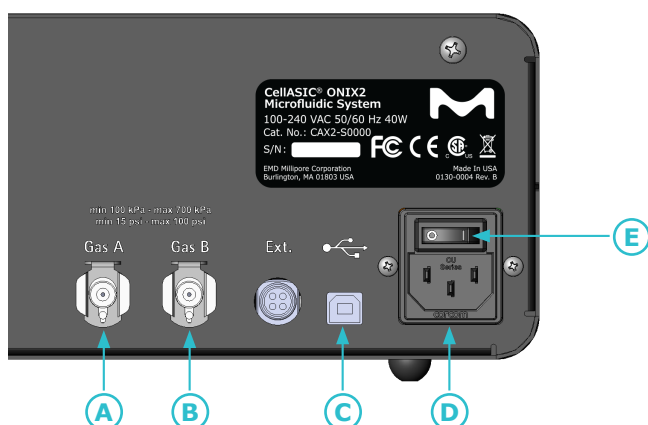

Figure 4. CellASIC® ONIX2 Microfluidic System back panel
2. Connect the power cord from a grounded electrical outlet to the system (D in Figure 4). The internal power supply accepts any voltage source between 100 and 240 VAC. Connect the USB cable from the computer to the USB port (C in Figure 4) on the back panel of the system.
3. If gas environmental control is desired, connect one or two premixed gas tanks to the back of the system into the ports I labelled Gas A (A in Figure 4) and Gas B (B in Figure 4) using the quick-connect fittings provided (Colder Products Co. 4 mm valved coupling insert part no. PMCD20025). The premixed gas input pressure must be regulated between 100 kPa and 700 kPa (15 psi and 100 psi). For easy setup, small premixed gas cylinders can be used (103 L or 112 L gas cylinders with a C10 connection). These will require the CellASIC® ONIX2 Premixed Gas Regulator accessory, cat. no. CAX2-ABR00.
- Turn on the system power using the switch on the back panel above the power cord entry (E in Figure 4). The green Ready indicator (G in Figure 8) will light up when the unit is ready for operation.